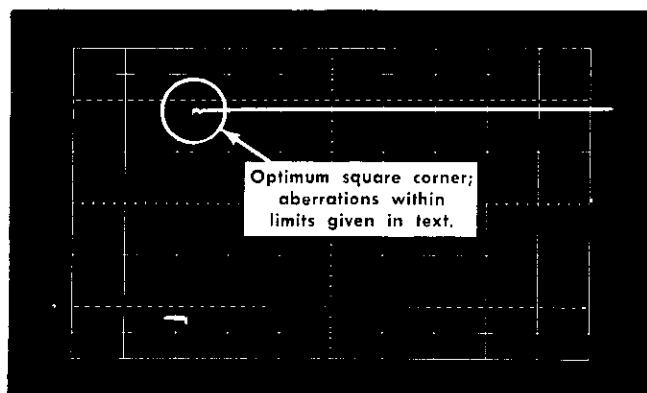

Fig. 5-4. Transient response waveform, step 7. Sweep rate 0.1  $\mu$ s/div; deflection factor 20 mV/div.
g. Adjust the Oscilloscope triggering and horizontal position controls to position the display as shown in Fig. 5-4.